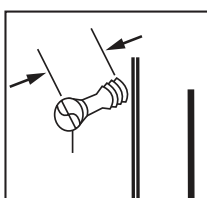

FIGURE 4
4. Drill holes. Using the one-way security lag screws, fasten door to house. **Tighten lag screws only halfway**, at this time, in case repositioning the door is required later (Fig. 4).